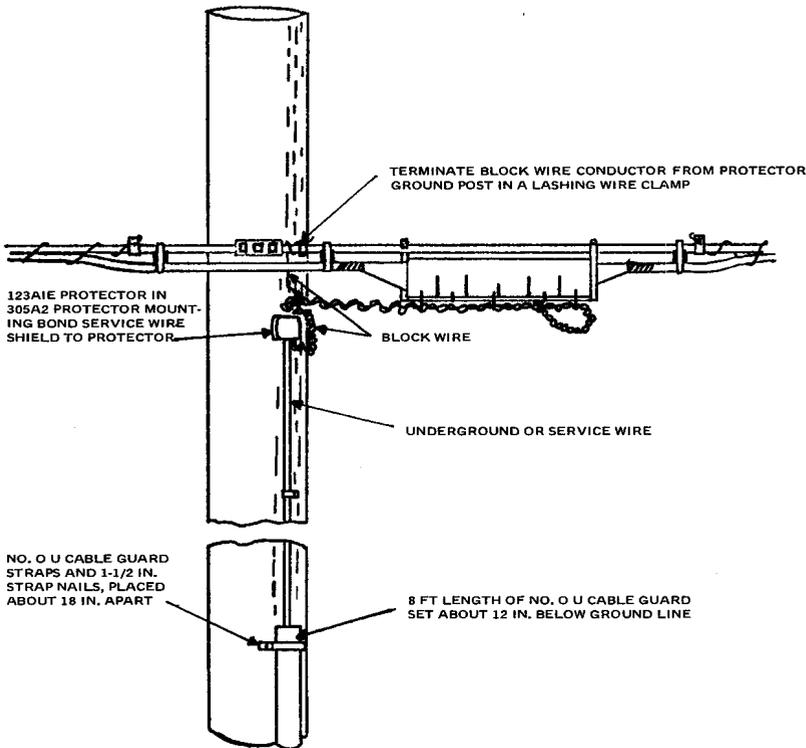

FIGURE 4. Termination for Special Lightning Protection
2.08 In heavy lightning areas where the subscriber's station is severely exposed to lightning, it may be desirable to furnish additional lightning protection to buried service wires which are 500 feet or less in length. Under these conditions, detailed plans or other special instructions authorize bonding the armor shield or bronze tape at the aerial cable terminal. Such installations require the use of a type 123 or 128 protector (equipped with 2B1E protector units) and connection of the armor shield or bronze tape to the ground post of the protector. A connection is also required between the protector ground post and the cable strand. For the latter purpose, block wire is required as a fusible link to prevent the common wire or bronze tape from overheating. A typical installation is shown in Figure 4.